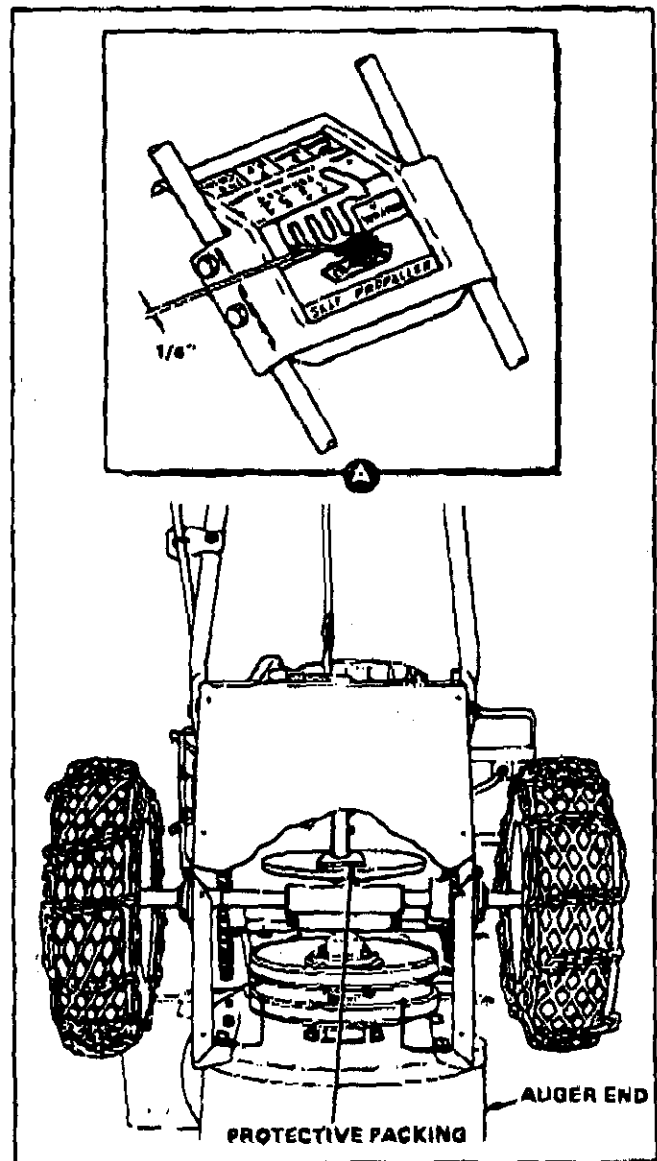
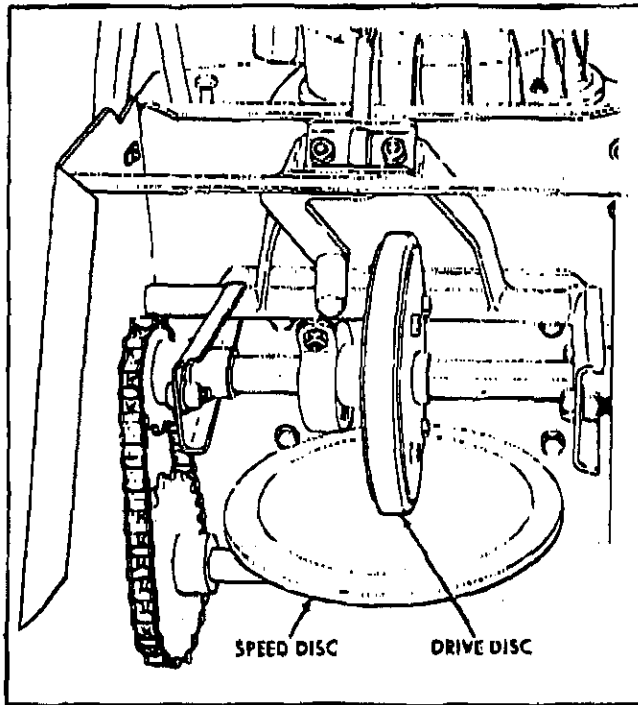

Figure 7
Figure 8
3. Stand unit up on auger end (figure 7). Remove protective packing (that was placed between rubber drive disc and speed disc for shipping purposes).
4. Place shift lever in a forward gear position (Detail A, figure 7). Using a piece of wood or other suitable material, block the lever back 1/2 inch from bottom of slot. Push bell crank down to engage drive disc and speed disc (figure 8). Tighten the shift rod saddle nut.
This unit is equipped with a pair of skids mounted on the back side of the auger housing and a pair of gage wheels located on the outside of the auger housing. Both the skids and gage wheels are used to elevate the front of the machine up to 1 inch. Figure 8 shows both parts. **NOTE:** Be certain that tires are inflated equally before adjusting skids or gage wheels.